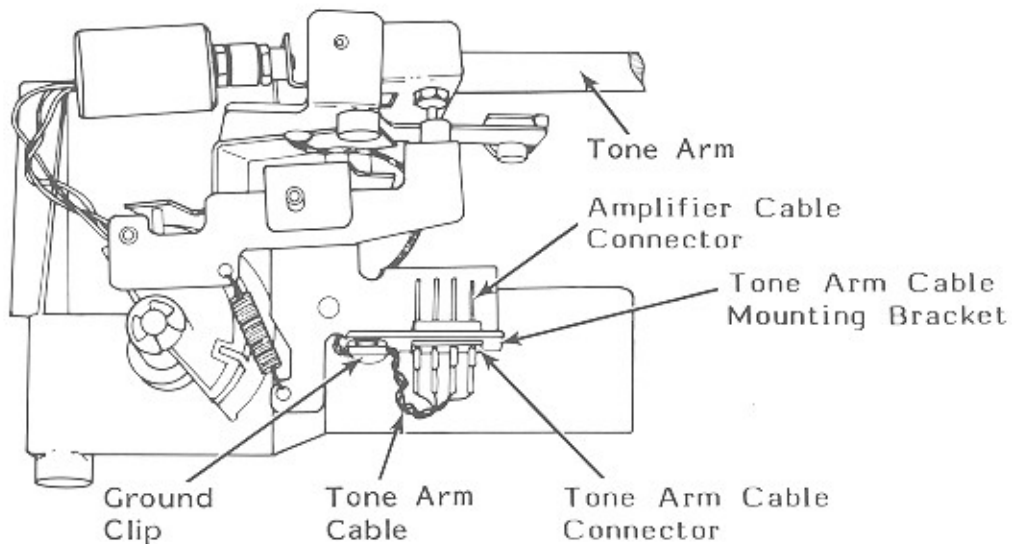

Figure 6-2. Tone Arm Cable
2. Locate the tone arm cable, cable ground clip (see figure 6-2), and tone arm cable connector.